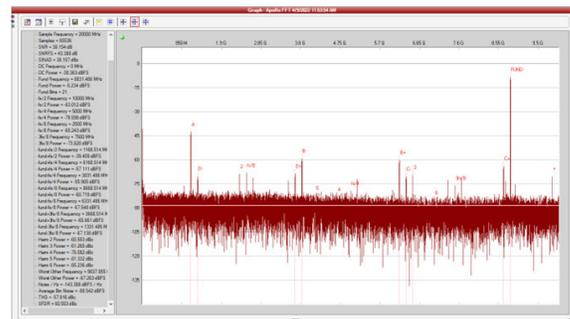

Figure 71. Selecting the Saved Data in Pattern Loader in the VisualAnalog Canvas
- ▶ The captured data post processes and displays in the VisualAnalog canvas as shown in Figure 71.